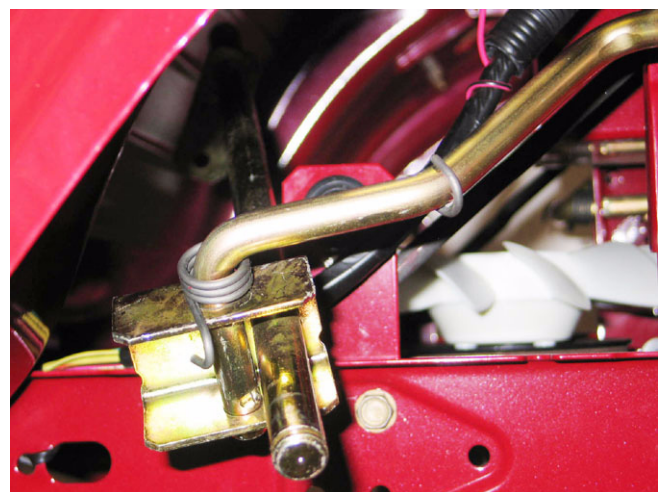

Figure 7.7
- 7.7. The control lever and cross shaft assembly can then be maneuvered out from under the fender. See Figure 7.7.